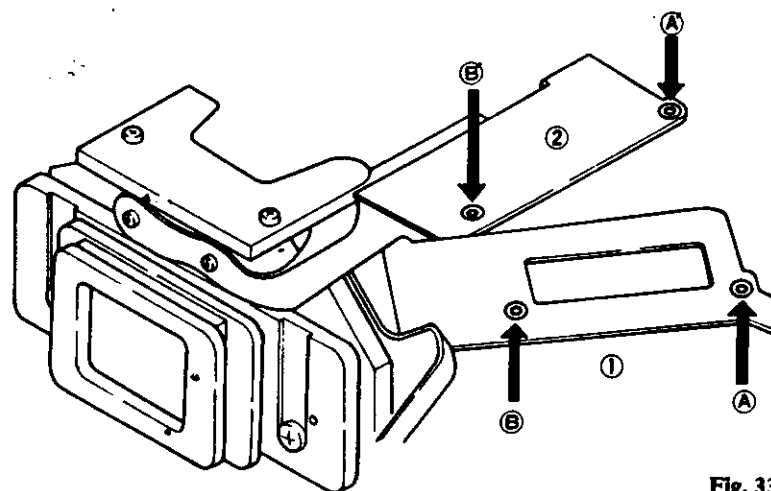

Fig. 33
- 12) Put A' portion of **CIRCUIT BOARD (No. 2)** upon A portion of **CIRCUIT BOARD (No. 1)** shown in Fig. 33 and put B' portion upon B portion.
- 13) After setting the **CIRCUIT BOARDS (Nos. 1, 2)** as shown in Fig. 33, solder seven parts cleanly.